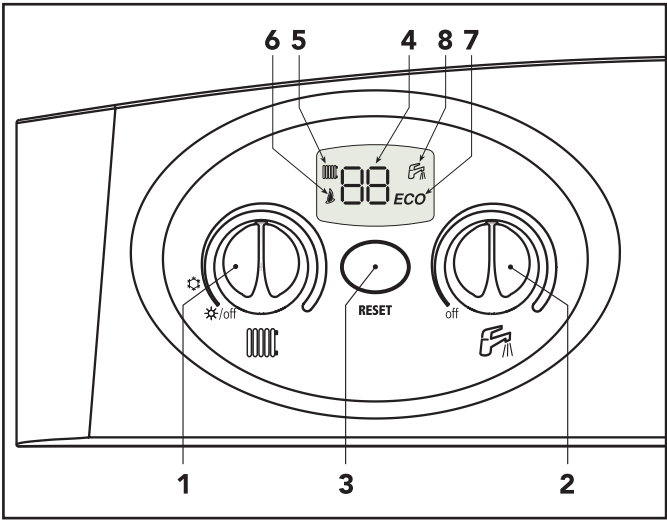

Fig. 1
During normal operation, the boiler diagnostics display the running information or boiler status on the control panel (Fig.1).see below.
Turn the knobs (ref. 1 and 2 Fig. 1) onto minimum.
To set the system delivery temperature, turn the knob (ref. 1 - Fig. 1).
To set the tap water temperature, turn the knob (ref. 2 - Fig. 1).
Boiler shutdown	Make sure that the gas cocks ahead of the boiler and on the meter are open. Check condensate discharge, make sure it is clean and not obstructed. Press the multi-function button (for 1 second) (fig.1) In case of repeated shutdowns, contact the nearest assistance centre.